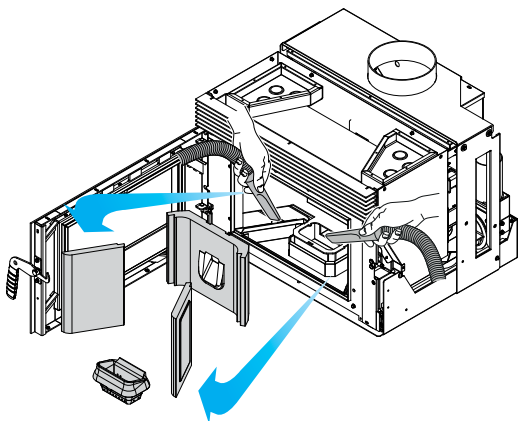

fig. 7.15
- B) Remove the interior plates from the combustion chamber and vacuum the remaining ash (fig. 7.15)